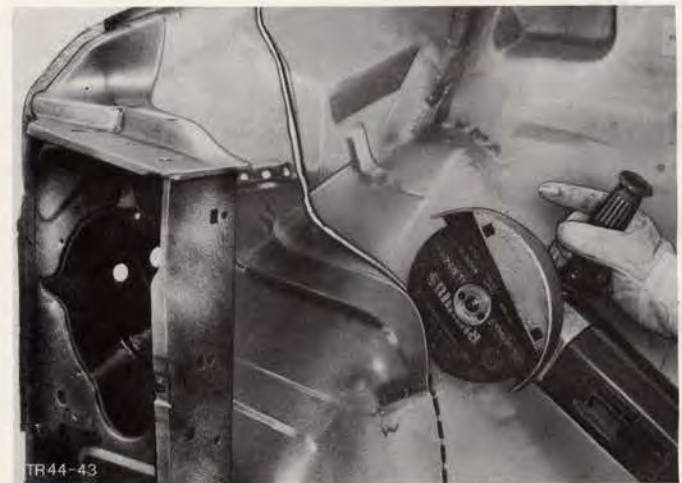

Fig.74. Cut apron panel section.
3. Cut off damaged apron panel section, Fig.74.